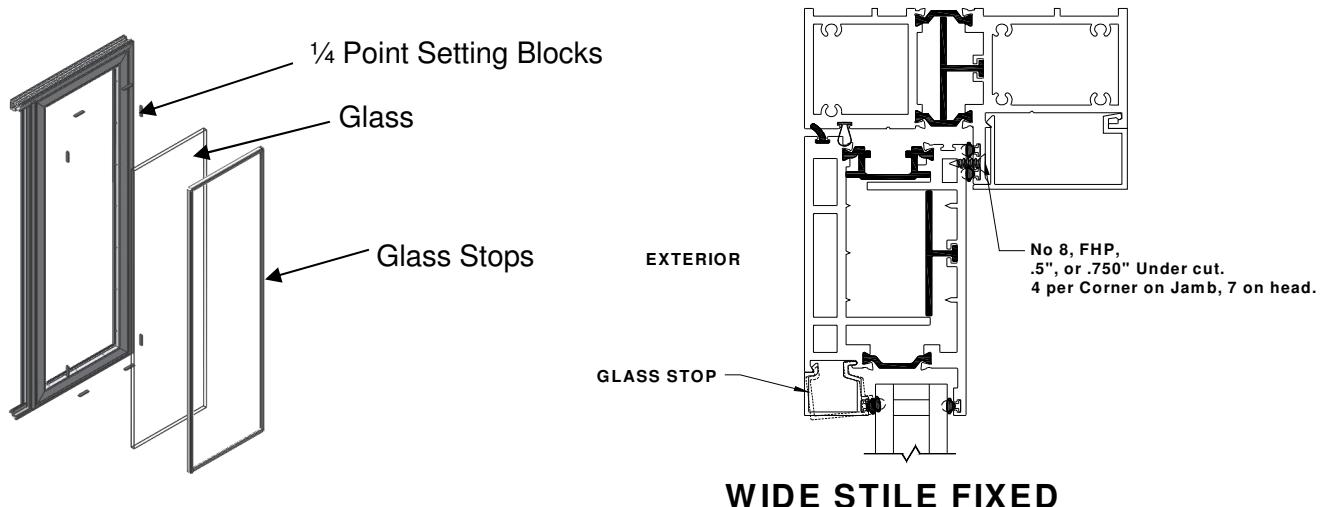

Figure 11:
- Install glass to panel frame then install glass stops (Figure 11).
- Install glass setting blocks (total 6 pcs per panel) at $\frac{1}{4}$ points into each jamb, head and sill for all four corners (Figure 11). To properly support insulated glass panes, stagger the setting blocks.